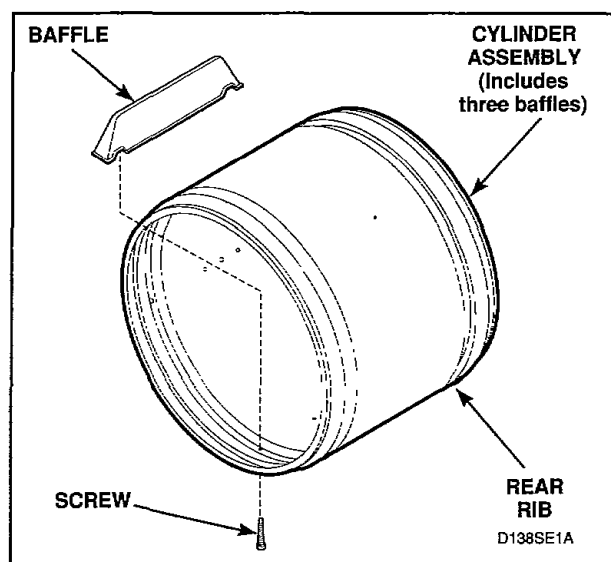

Figure 42
**NOTE:** When installing belt, be sure belt is properly installed on motor and idler pulleys, and is on the correct side of the idler lever, *Figure 34*. Belt must be positioned around cylinder approximately three inches ahead of the rear rib on cylinder, *Figure 42*, with the ribbed surface of the belt against cylinder. After installing belt, manually rotate cylinder **counterclockwise** to check that belt is properly aligned.
Remove screws holding baffles to cylinder, *Figure 42*.
**NOTE:** When installing belt, be sure belt is properly installed on motor and idler pulleys, and is on the correct side of the idler lever, *Figure 34*. Belt must be positioned around cylinder approximately three inches ahead of rear rib on cylinder, *Figure 42*, with the ribbed surface of the belt against cylinder. After installing belt, manually rotate cylinder **counterclockwise** to check that belt is properly aligned.